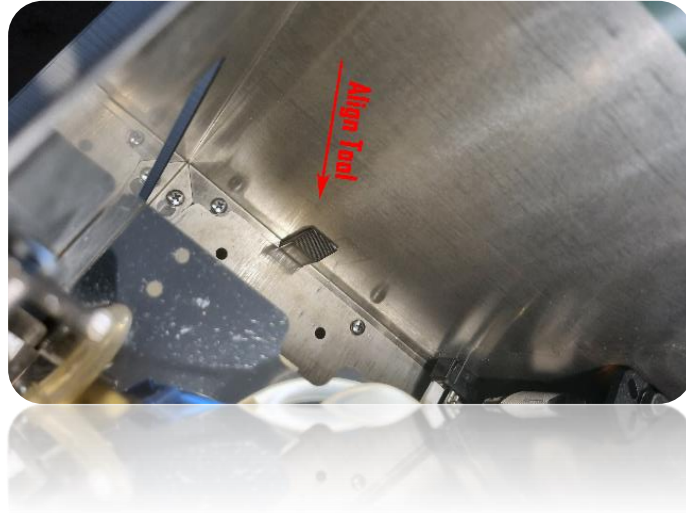

Fig. 6.16
- Now take the align tool , remove the adhesive tape protection and glue it to the back position like in (fig. 6.16)